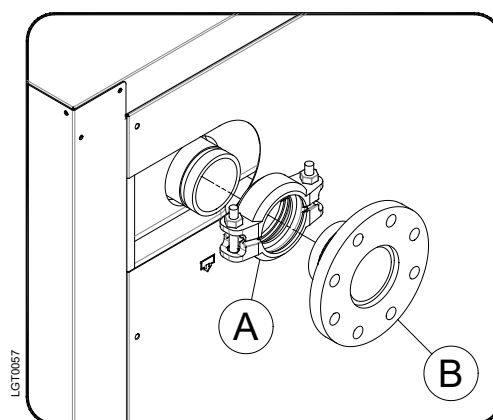

Fig.2
Assembly flange (B) and Victaulic® joint (A) as shown in Fig.2
**Pay particular attention in not damaging the gasket of Victaulic® joint (A).**